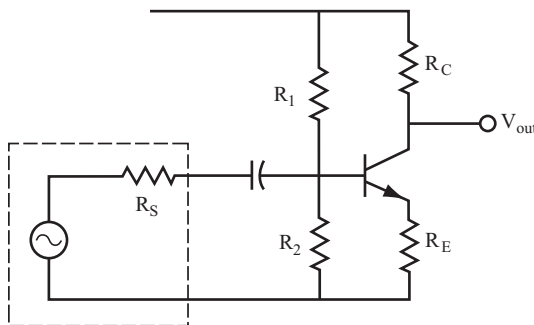

FIGURE 9.6
**4** The amplifier shown in Figure 9.6 is the same type of amplifier that was discussed in problems 11–18 of Chapter 8, “Transistor Amplifiers.” It is called a *common emitter amplifier*.
**5** In the circuit shown in Figure 9.6, an input signal applied to the base will be amplified.
**B.** What is the voltage gain formula for the amplifier circuit shown in Figure 9.6? \_\_\_\_\_